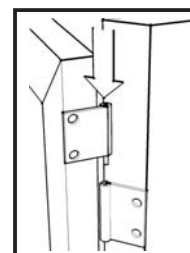

Figure 6
Attach Door (S) by sliding the door lift hinges into the side panels lift hinges. (See figure 6)